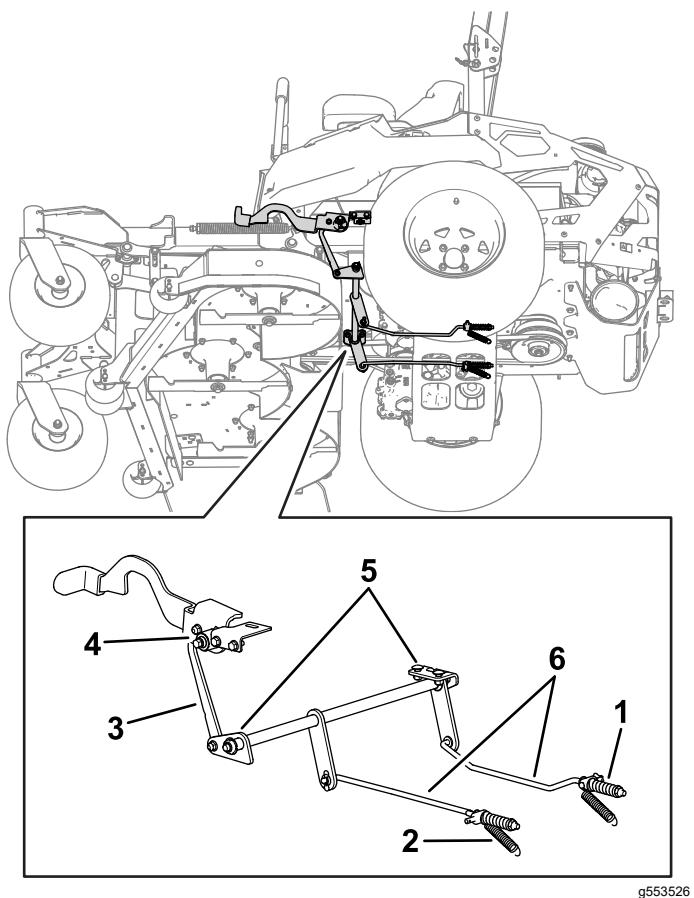

Figure 73
7. If an adjustment is necessary, disengage the parking brake. Inspect all components of the parking brake linkage for wear. Replace any worn components (Figure 73) and repeat step 6.